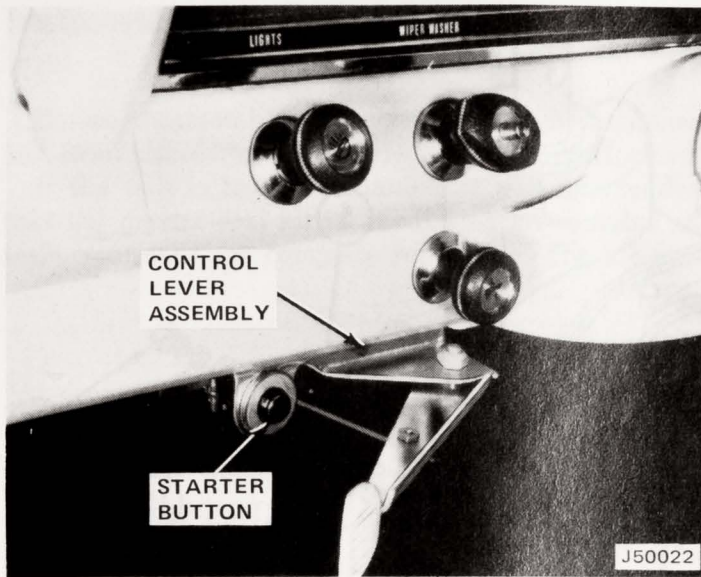
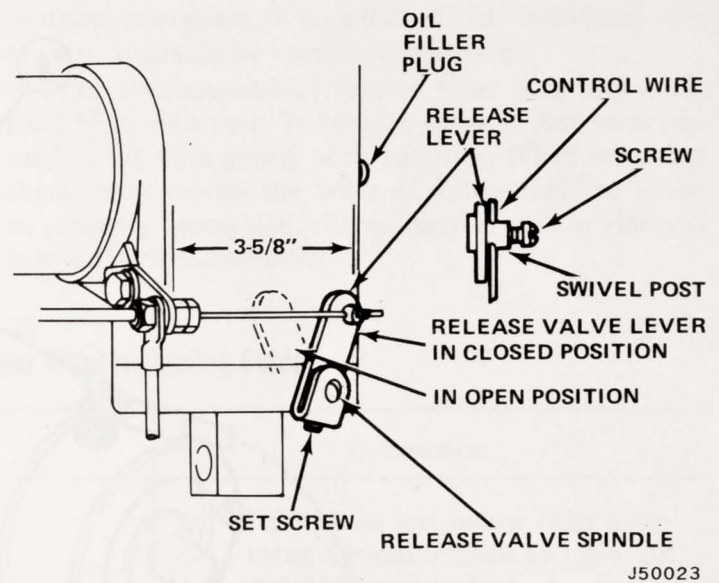
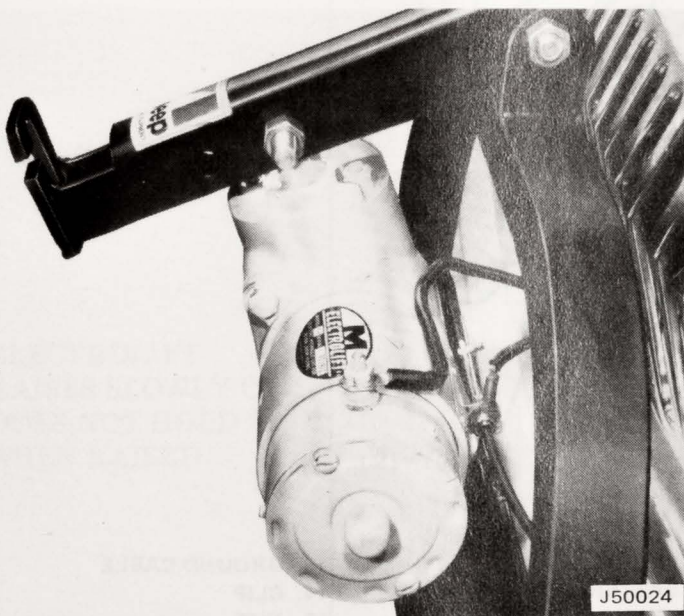
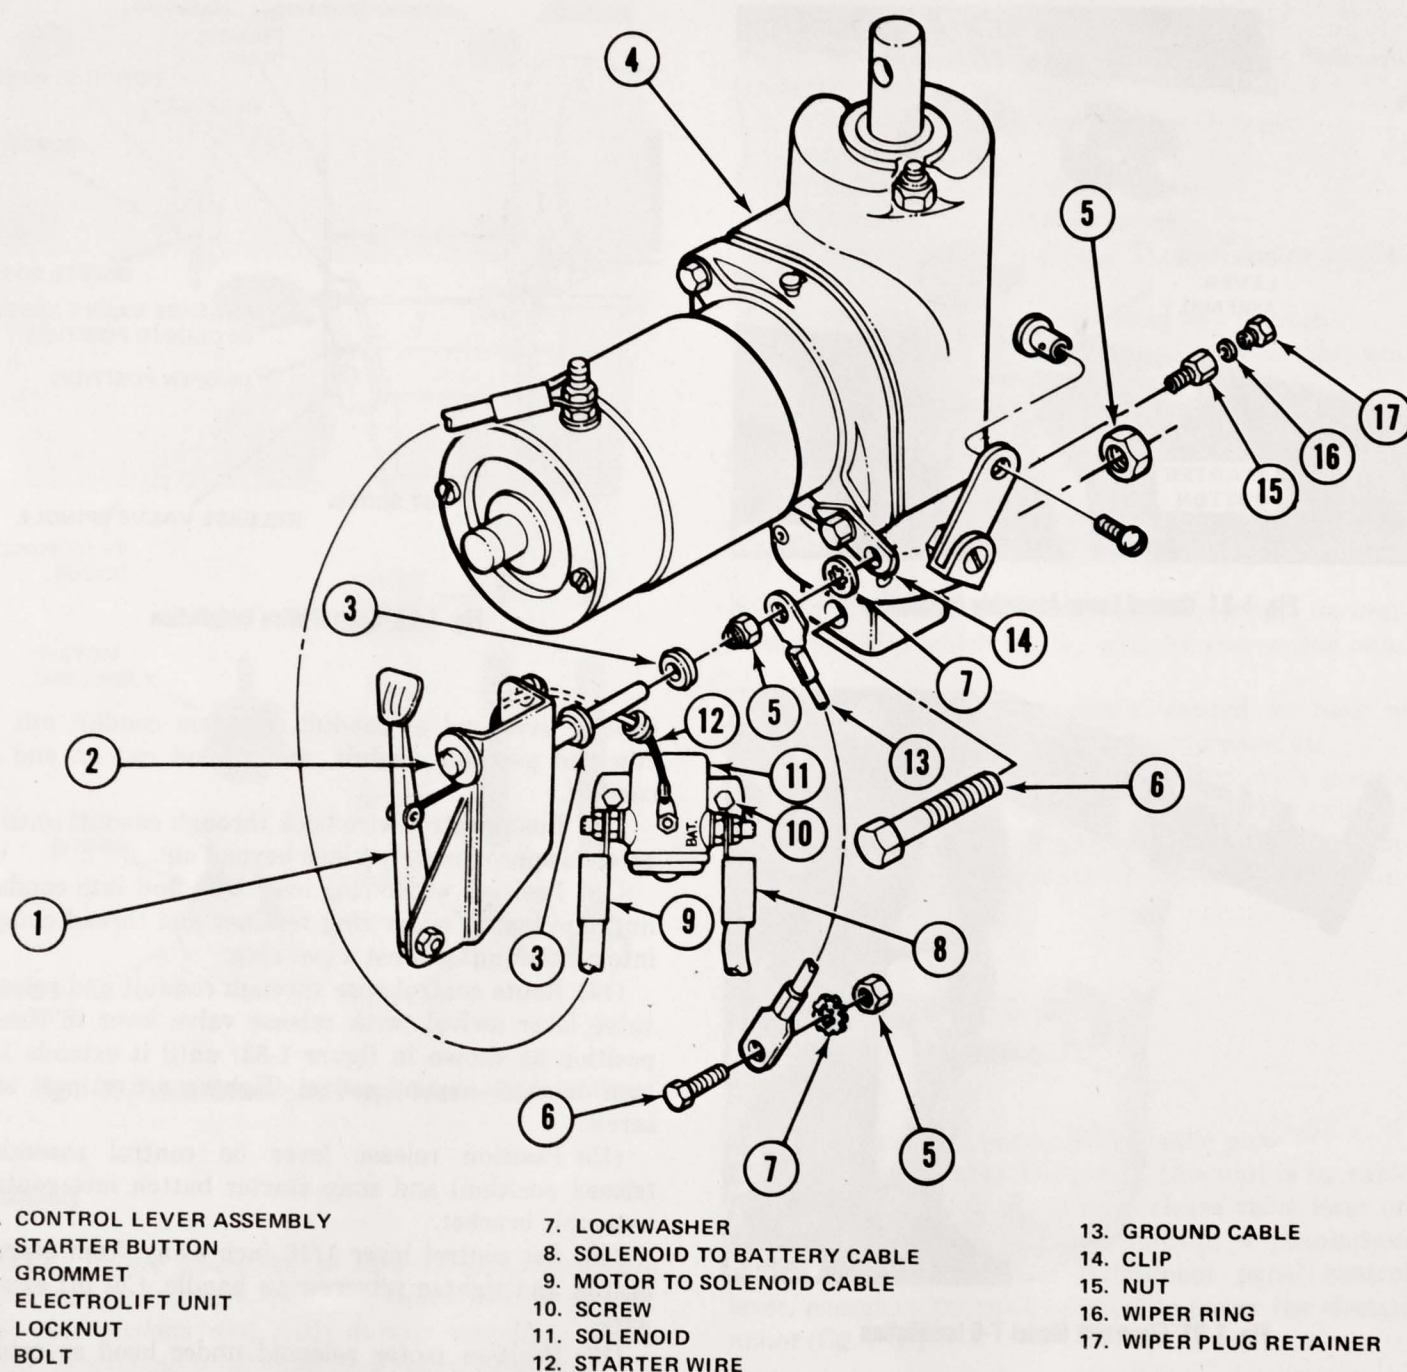

Fig. 1-31 Control Lever Assembly Installation
Fig. 1-33 Control Wire Installation
Fig. 1-32 Electrolift Model T-6 Installation
Fig. 1-34 Electrolift Model T-6—Components and Installation
This power pack provides hydraulic plow lift, hold, and lower capabilities. Control of this unit is by cable from the instrument panel to a release valve lever on the electro-hydraulic ram mechanism. A pushbutton switch, mounted on the instrument panel control lever, energizes the pilot solenoid to power the electric motor (fig. 1-31).
- (1) Disconnect negative battery cable.
- (2) Install electrolift unit in lift frame, motor toward left side of vehicle. Tighten nuts to 30 to 40 foot-pounds torque (fig. 1-32).
- (3) Drill two 1/4-inch holes in control lever assembly mounting flange.
- (4) Route cable of control lever assembly through grommet in firewall to engine compartment.
- (5) Using control lever assembly mounting flange as template, position on bottom flange of instrument panel (left side) and drill two 3/16-inch holes. Attach control lever assembly with self-tapping screws (fig. 1-31).
(12) Push control wire back through conduit until it extends approximately 1 inch beyond nut.
(13) Position wiper ring over wire and into conduit nut, and install wiper ring retainer and thread snugly into conduit nut against wiper ring.
(14) Route control wire through conduit and release valve lever swivel (with release valve lever in closed position as shown in figure 1-33) until it extends 1/2 inch or more beyond swivel. Tighten swivel post set-screw.
(15) Position release lever on control assembly (closed position) and snap starter button into control assembly bracket.
(16) Set control lever 1/16 inch away from starter button and tighten setscrew on handle. Cut off excess wire.
(17) Position motor solenoid under hood so cables reach connections. Using motor solenoid as guide, drill mounting holes and install with self-tapping screws.
(18) Connect starter wire to small terminal of starter solenoid. Route wire through existing grommet in firewall and snap into terminal at back of starter button.
(19) Connect motor cable to starter solenoid (opposite side marked BAT), route through grille, and connect to motor (fig. 1-34).
(20) Connect battery cable to BAT side of solenoid and route to battery terminal.
(21) Connect ground cable to an existing hole in vehicle frame. If no hole is available, drill a 5/16-inch hole and secure with bolt, lockwasher, and locknut.
(22) Connect negative battery cable and test installation (fig. 1-32).